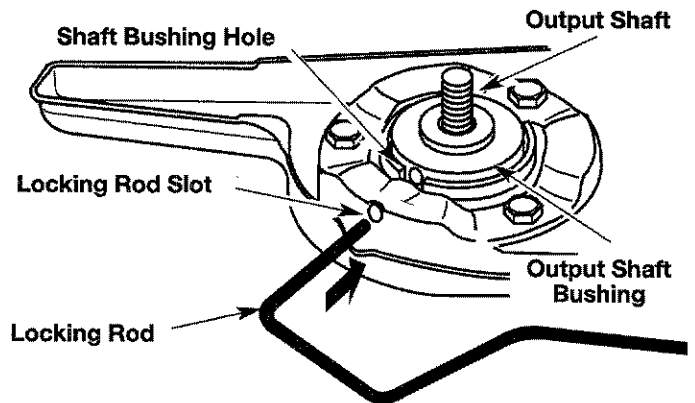
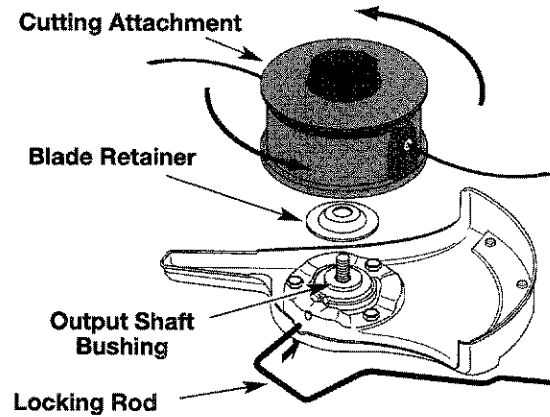

Fig. 8
Fig. 15
1. Align the shaft bushing hole with the locking rod slot and insert the locking rod into the shaft bushing hole (Fig. 8).
- Align the shaft bushing hole with the locking rod slot and insert the locking rod into the bushing hole (Fig. 8, Pg. 9).
5. Align the shaft bushing hole with the locking rod slot and insert the locking rod into the shaft bushing hole (Fig. 8, Pg. 9). Place the blade retainer on the output shaft with the flat surface against the output shaft bushing as shown in Fig. 15. Screw the cutting attachment counterclockwise onto the output shaft. Tighten securely.